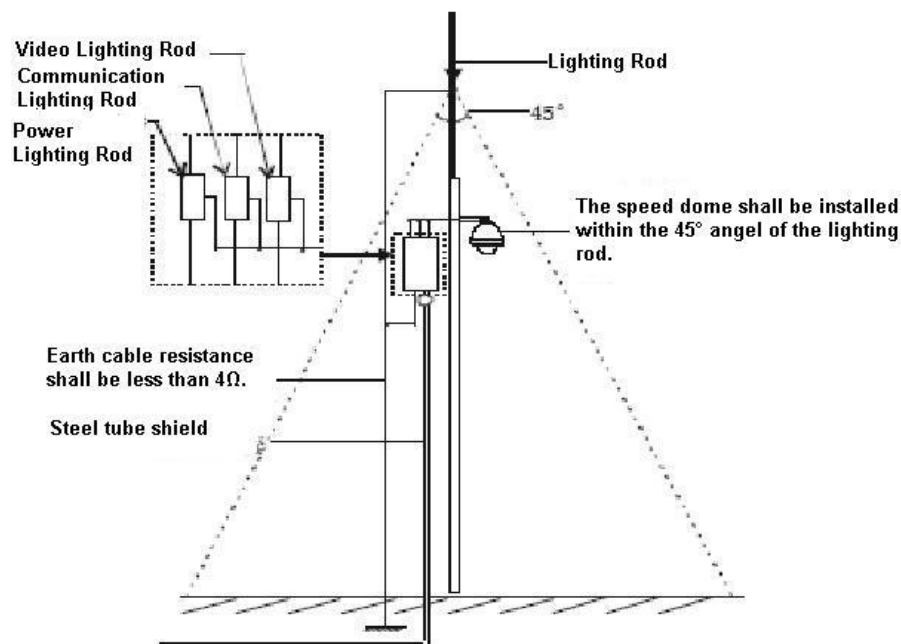

Figure 7-1
- System shall adopt equal-potential wiring. The earth device shall meet anti-jamming and at the same time conforms to your local electrical safety code. The earth device shall not short circuit to N (neutral) line of high voltage power grid or mixed with other wires. When connect the system to the earth alone, the earth resistance shall not be more than  $4\Omega$  and earth cable cross-sectional area shall below  $25\text{ mm}^2$ . See Figure 7-1.